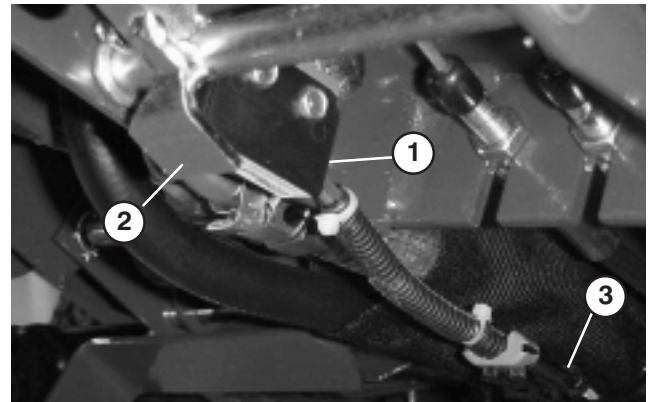

Figure 60
1. Gap between parking brake shaft pivot paddle and bottom of interlock switch (Fig. 60) should be approximately 1/16" (Paddle must not contact switch).